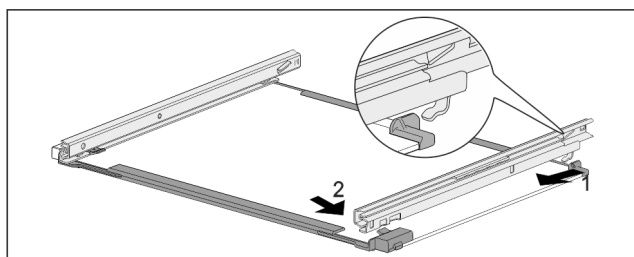

Fig. 132 Glass shelf with rails
- Hook in rail at the back. Fig. 132 (1)
- Hook in rail at the front. Fig. 132 (2)